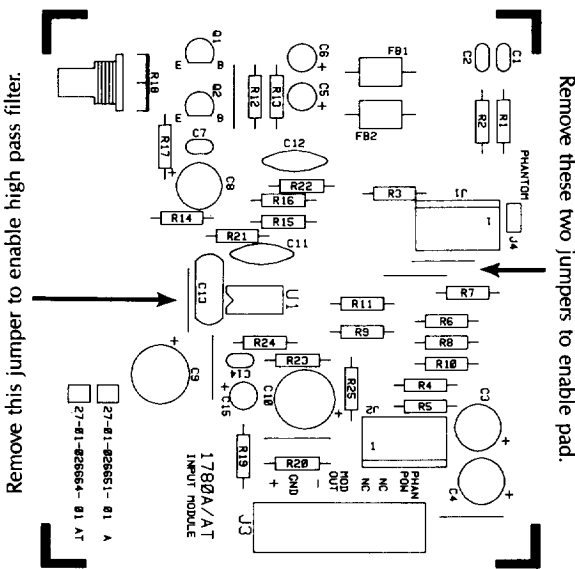

Figure 2. Component Location for the 1780A PCB
To enable phantom powering of condenser microphones, install a 2-pin female jumper onto J4, the 2-pin male header connector located adjacent to J1 as shown in Figure 2 below. This will apply +36 VDC to each side ("+" and "-") of the microphone's signal lines.
A 10 kΩ, 20 dB resistive pad is pre-installed on the printed circuit board but is bypassed by two jumpers as shown in the schematic and in Figure 2. If the pad is not needed, resistor R8 should be removed from the circuit board. This will maintain a high input impedance by minimizing the
The high-pass filter is normally bypassed but may be enabled by clipping the wire jumper adjacent and parallel to capacitor C13 (between R14 and C9). Refer to Figure 2.
1. Remove the two wire jumpers with ferrite beads, designated FB1 and FB2, near the upper right corner of the module when looking at the component side of the circuit board. Refer to Figure 2 for details.